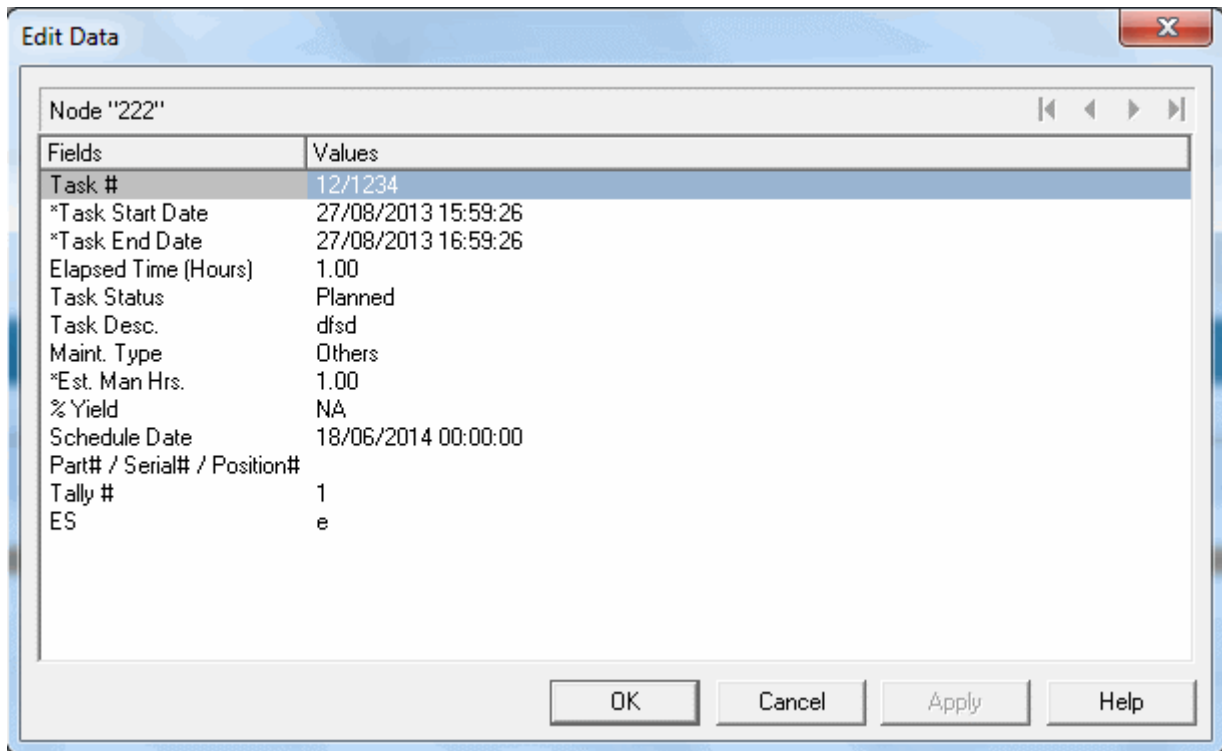

Figure 2.13 Edit task
1. Double-click on the time bar of the task that you want to modify, in the Job Details Gantt chart. A window appears with details of the task. *See Figure 2.13.*